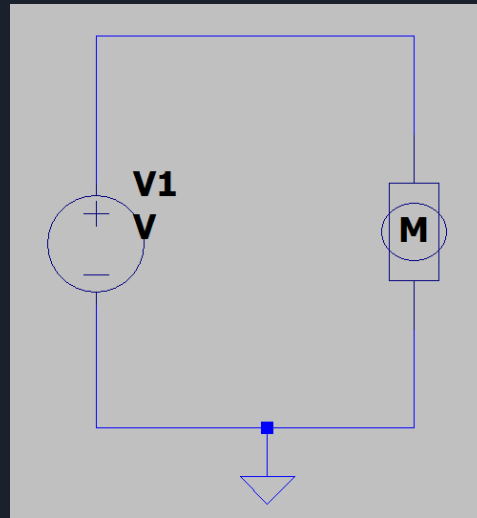

Figure 4.
- Similar to what we have done in lab 6, build the circuit shown in figure 4 in LTspice.